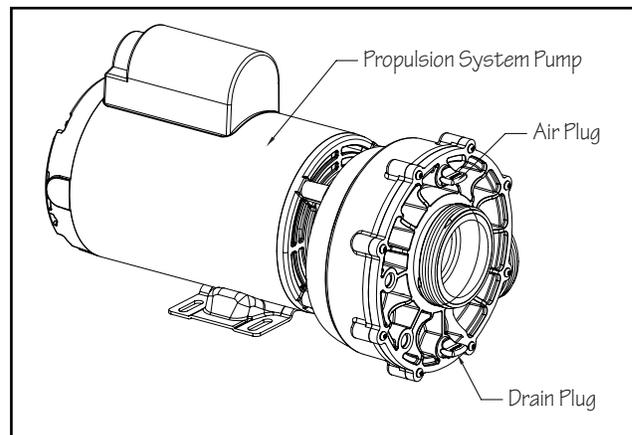

Fig. 2
**Important Note:** If a swim current is not produced when pressing Key 1, air may need to be bled from the propulsion system plumbing. Press key 1 a second time to switch the pump to high speed. With the propulsion system pump running on high speed, slowly unthread the air plug (Fig. 2). This will allow air to escape the plumbing. Continue to unthread the plug until a swim current is produced in the pool. Once a swim current is produced, thread the air plug back in the port.